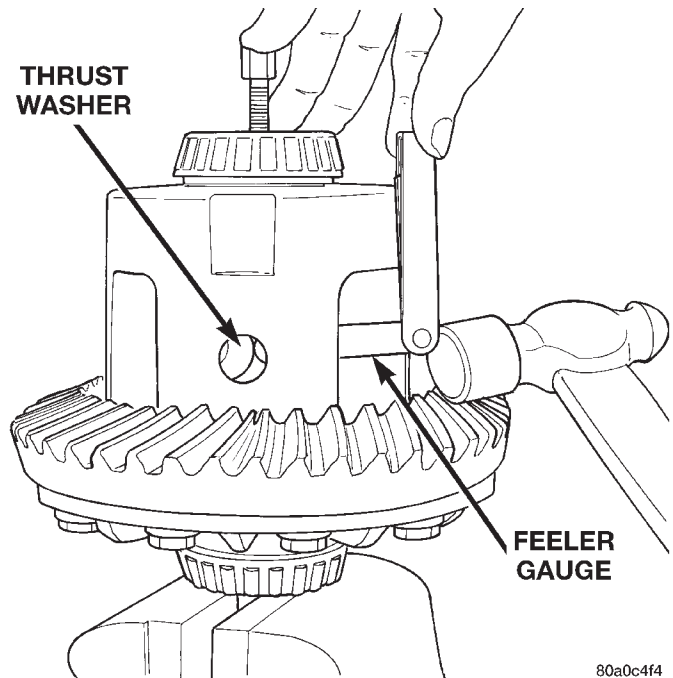

Fig. 49 Remove Pinion Thrust Washer
(10) Using a 0.020 in. feeler gauge and mallet, remove thrust washers from behind the pinion gears (Fig. 49).
(11) Loosen the forcing screw tool until the clutch pack tension is relieved and the pinion gears can be slightly rattled between the case and side gears.